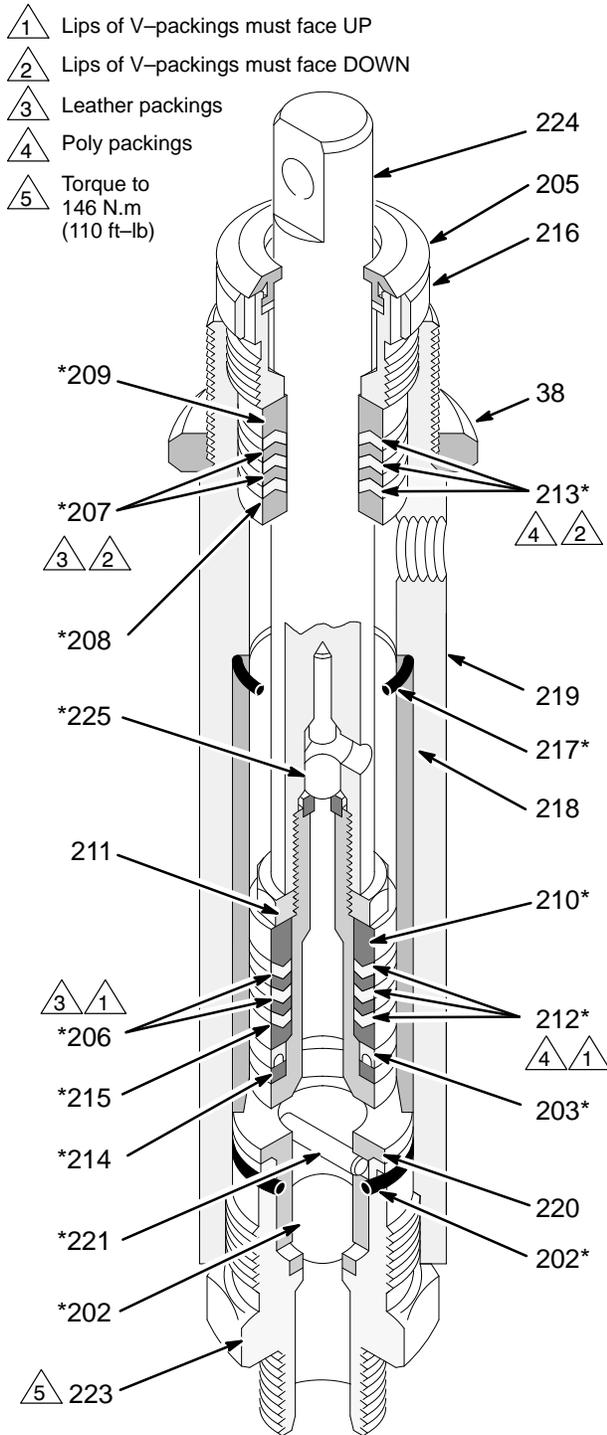
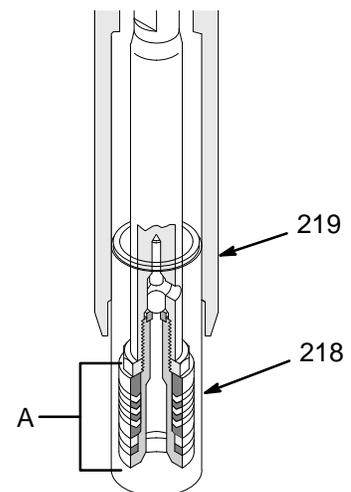

Fig. 17 01197
Fig. 20 0030
8. Place a new seal (217*) into the cylinder and coat with oil. See Fig. 17.
9. Install these parts in the top of the cylinder (219): the male gland (208*), alternate the three plastic packings (213*) and the two leather packings (213*), and then install the female gland (209). See Fig. 17.
10. Loosely install the packing nut (216) and plug (205). See Fig. 17.
11. Coat the piston rod and packings with oil. Carefully slide the assembly **into the top of the sleeve** (218).
12. Slide the sleeve/piston rod assembly (A) **into the bottom of the cylinder** (219). See Fig. 20.
13. Screw down the cylinder locknut (38) until it is finger tight at the bottom of the external cylinder threads.
14. Place the intake valve (223) in a vise. Install a new o-ring (202*). Screw the pump cylinder onto the intake valve. Torque to 146 N.m (110 ft-lb). See Fig. 17.